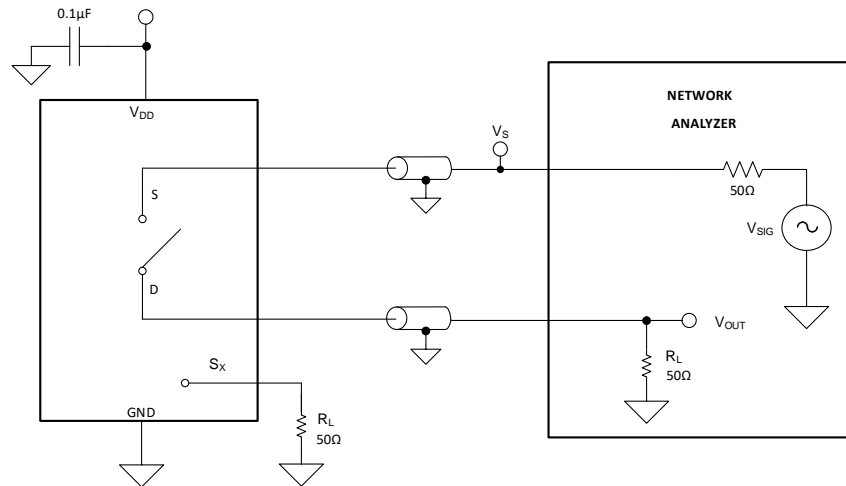

图 13. Off Isolation Measurement Setup
Off isolation is defined as the ratio of the signal at the drain pin (D) of the device when a signal is applied to the source pin (Sx) of an off-channel. 图 13 shows the setup used to measure, and the equation used to calculate off isolation.